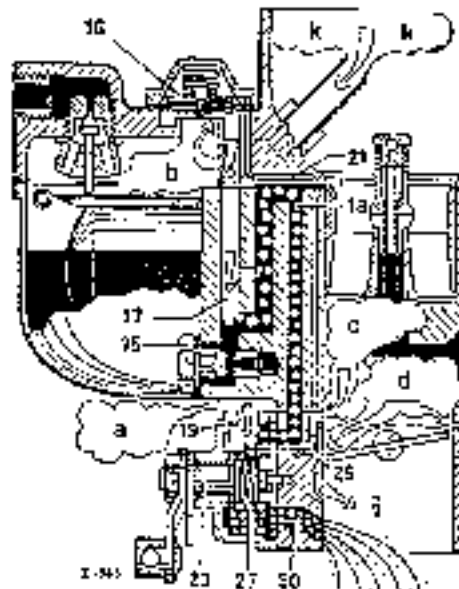

Fig 07-0/14
As soon the engine has started, the 2nd phase of the cold start begins. The increase in engine speed brings about an effective partial vacuum beneath the throttle valves. This partial vacuum exerts a pull on the spring-loaded side of the diaphragm of the starter air valve (16) via the vacuum canal (21) (see Fig. 07-0/14).
As a result of the partial vacuum effect the starter air valve (16) opens and admits more air into the starter system from the float chamber via the air canal (17) and the fuel cannel (18). This additional air immediately leans out the start mixture after the engine has started, thus ensuring the proper running conditions for the engine. Fig. 07-0/14 shows the mode of action of the starter mechanism after the engine has started.